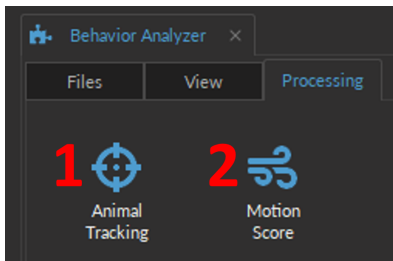

Figure 12.6: Behavior Analyzer, Processing tab
The **Processing** tab (Fig. 12.6) includes two behavior measurements, which will be treated in the following sections:
- *Animal Tracking* (Fig. 12.6, 1) - Section 12.3.1
- *Motion Score* (Fig. 12.6, 2) - Section 12.3.2